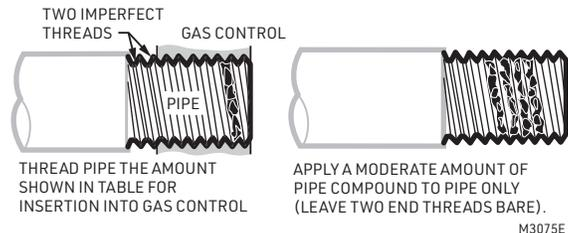

Fig. 4. Use moderate amount of pipe compound.
4. Apply a moderate amount of good quality pipe compound (do not use Teflon tape) to pipe only, leaving two end threads bare. On LP installations, use compound resistant to LP gas. See Fig. 4.